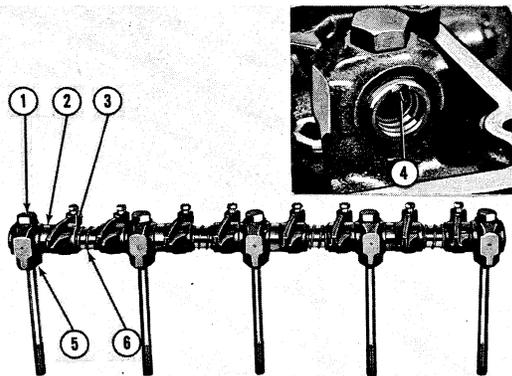

Figure 7
- Remove the bolts that retain the rocker shaft supports to the rocker shaft, Figure 7.